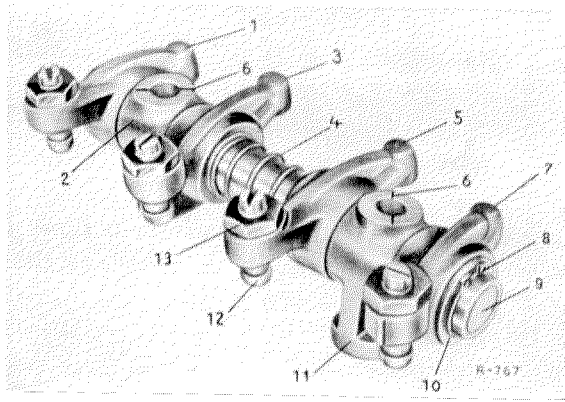

Figure 05-2/3
5. Slide the rocker bracket (11) on the shaft, so that the oil groove at the bottom of the rocker bracket faces towards the ball-head bolt end of the rocker (see Figure 05-2/3).